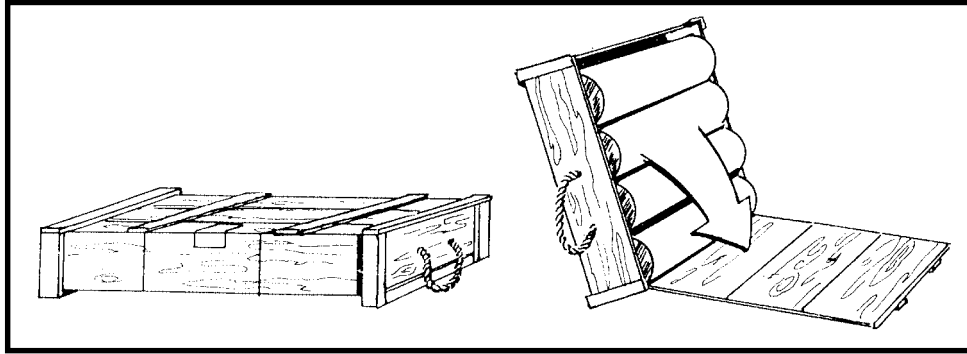

Figure 4-8. Correct way to open an ammunition box.
(1) Ammunition should be free of moisture, rust, and dirt.
(2) The fin and fuze assembly must be checked for tightness and damage.
(3) Charges must be kept dry.
(4) Extra increments are removed if the cartridge is to be fired with less than full charge.
(5) With the exception of a few unused increments (within the same ammunition lot number) as replacements for defective increments, excess powder should be removed from the mortar position.
(6) The primer cartridge is checked for damage or dampness.
(7) When opening an ammunition box, the ammunition bearer ensures the box is horizontal to the ground, not nose- or fin-end up. After the bands are broken and the box opened, the rounds should be removed by allowing them to roll out along the lid of the box (Figure 4-8). After the rounds have been removed, they should always be handled with two hands to prevent accidental dropping. Dropping may cause the propellant charges to ignite, causing bodily injuries.